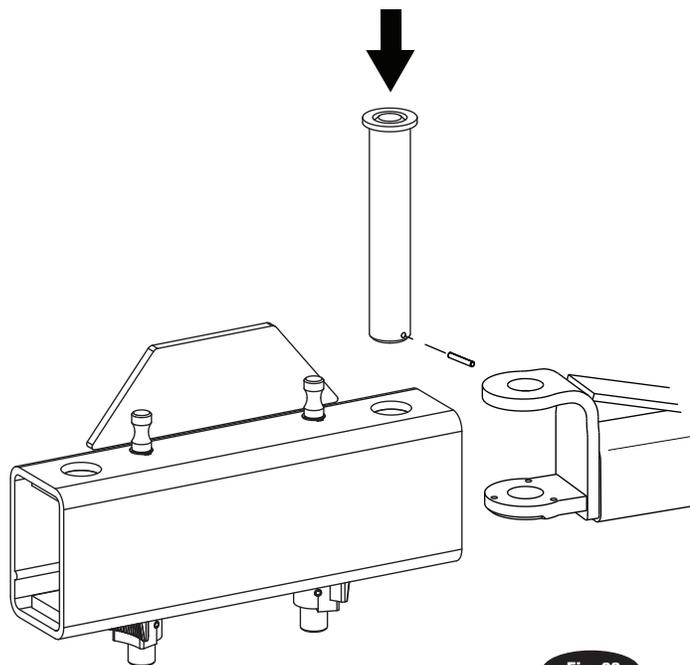

Fig. 23a
**17. Arms & Restraints:** Before installing arms, raise carriages to a convenient height. Grease swivel arm pins and holes with Lithium grease. Slide arm into yoke, Fig. 23a. Install 1-3/4" diameter arm pin(s) and arm stop, Fig. 23a.
Install Spring Pin to secure arm pin in place, Fig. 23a.